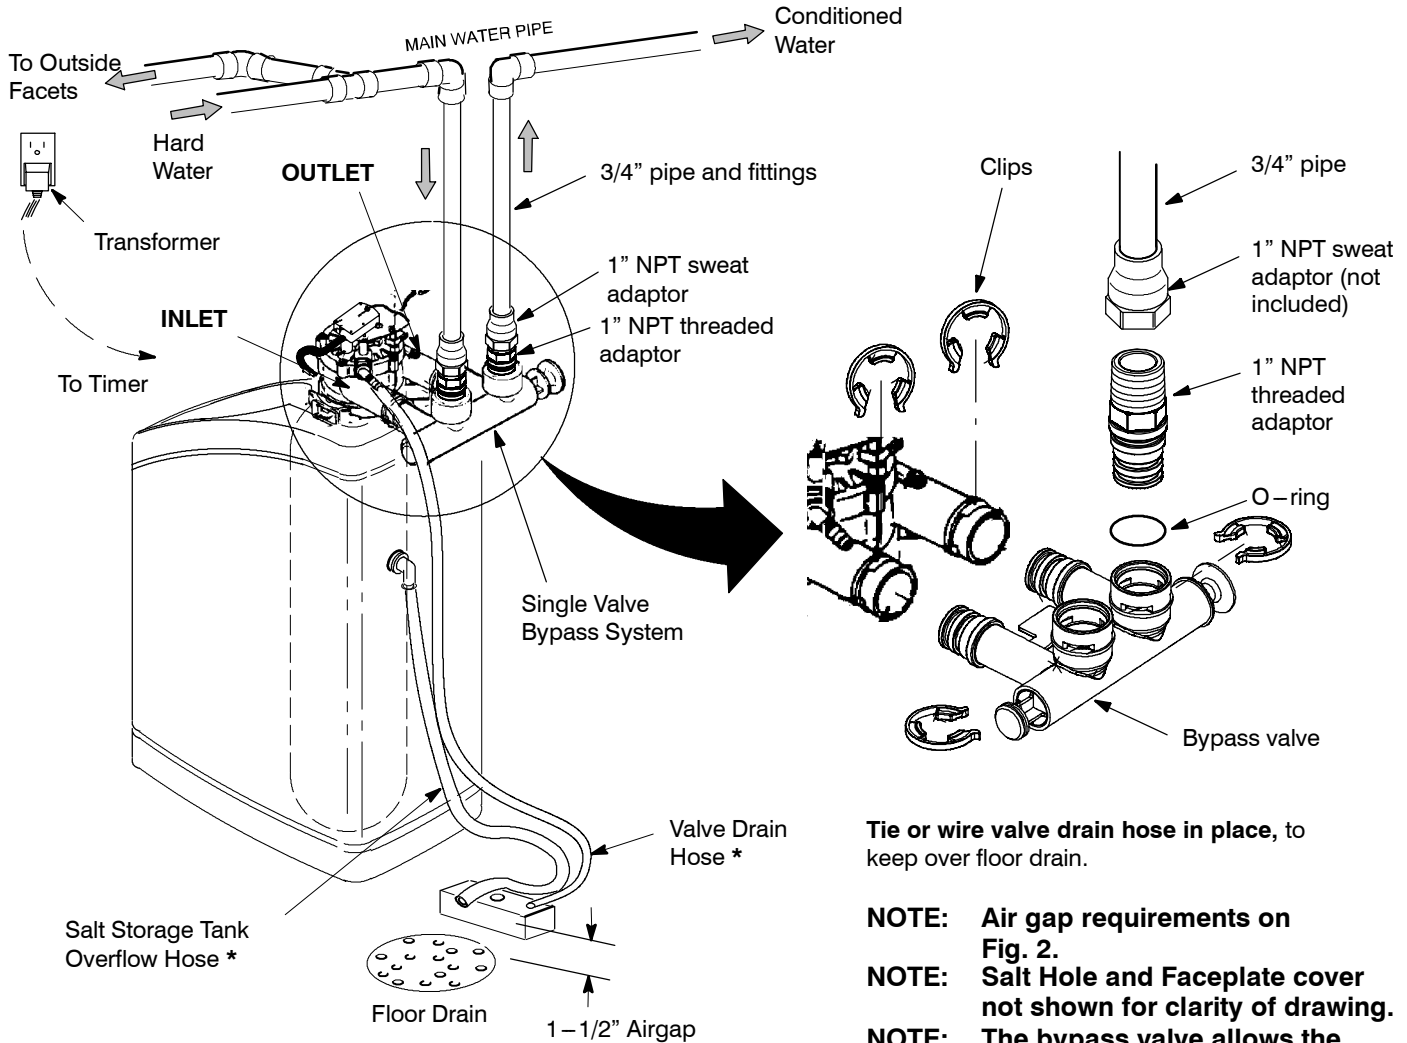

**Figure 1**
1. Morton™ System Saver™ models are factory assembled. During installation, remove the Salt Hole Cover. Set aside to prevent damage. Check the brinewell to be sure it is secured and vertical (see Figure 1). Slide Faceplate Cover forward to expose back valve assembly.